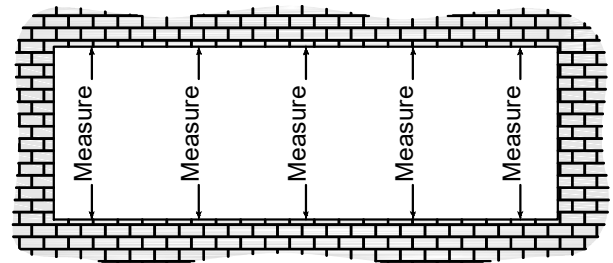

Fig. 19.3
- C. Measure the height of the opening at several points along the entire width of the opening. Select the smallest of these dimensions and subtract 1" to allow a minimum of 1/2" at sill and 1/2" at head for shimming and receptor. Allow larger clearance if necessary to accommodate building tolerances or out of square openings. SEE Fig. 19.3.